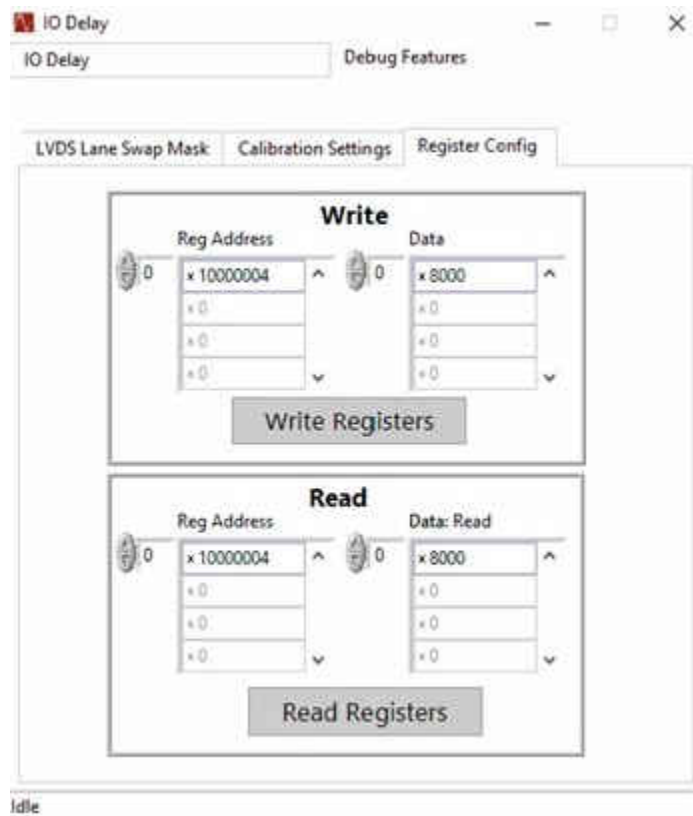

Figure 3-9. IO Delay Register Write
- d. Enter x10000004 for the Reg Address and x8000 for the Data in the Write section as shown in Figure 3-9. Click the *Write Registers* button. Enter x10000004 for the RegAddress in the Read section. Click the *Read Registers* button. Verify x8000 was written to this address. Close this window.